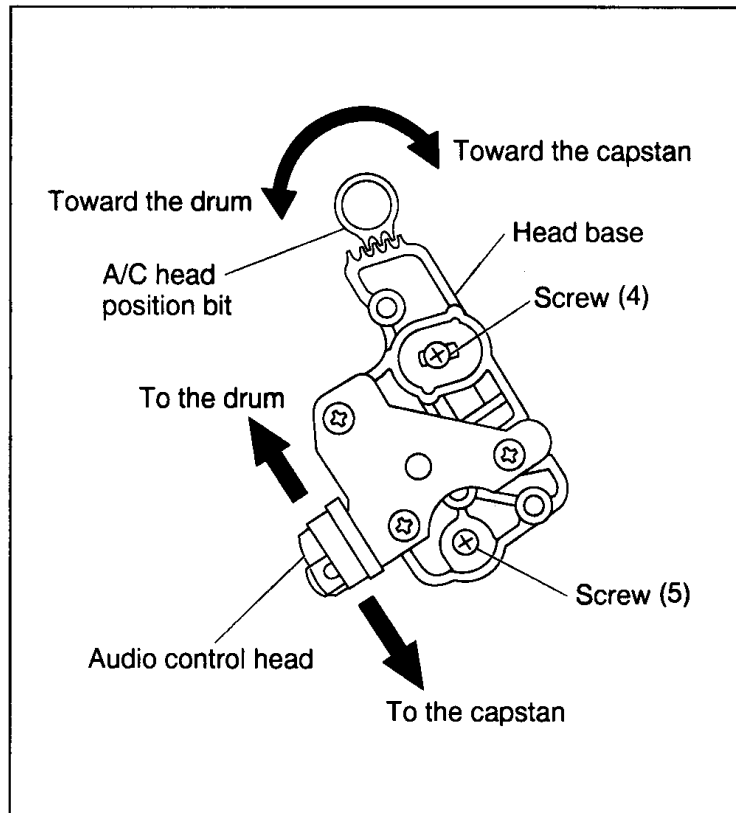

Fig. 2-4-6
- (1) Connect the oscilloscope to TP106(PB FM/COL) of the main board assembly and to TP111(D.F.F) of the main board assembly for external sync connection.
- (2) Play the alignment tape (SP) and observe the FM waveforms.
- (3) Press the channel buttons (▲) and (▼) buttons simultaneously during playback to enter the manual tracking mode (This also brings tracking to the center.)
- (4) Loosen screws (4) and (5) so that the A/C head position bit is set as indicated in Fig.2-4-6.
- (5) Turn the A/C head position and first move the audio control head fully up to the capstan head. Then gradually return the audio control head toward the drum and stop it where the FM waveform reaches its maximum for the first time. Then tighten screw (4) temporarily.
- (6) Then play the alignment tape (EP)
- (7) Press the channel buttons (▲) and (▼) buttons simultaneously during playback to enter the manual tracking mode (This also brings the tracking to the center.)
- (8) Perform the tracking operation and make sure that the FM waveform is at its maximum.
- (9) If it is not at maximum, loosen the temporarily tightened screw (4) and turn the A/C head position bit to bring the audio control head to a position, around where the waveform reaches its maximum for the first time. Then tighten screws (4) and (5).